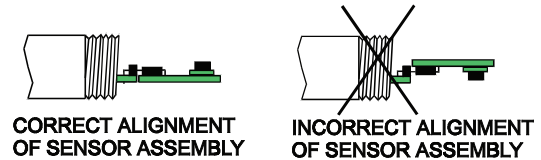

Figure 6
3. Replace sensor making sure all six pins mate correctly with the socket and that the boards are correctly aligned as shown in Figure 6.